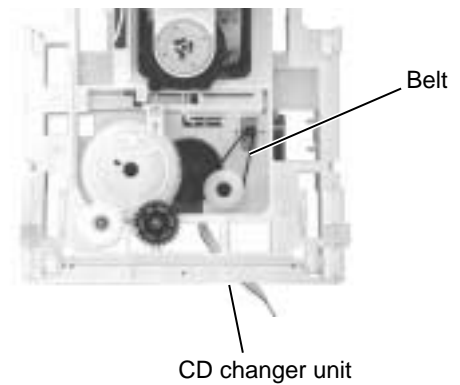

Fig.8
■ Removing the belt, the CD board and the switch board (See Fig.8 and 9)